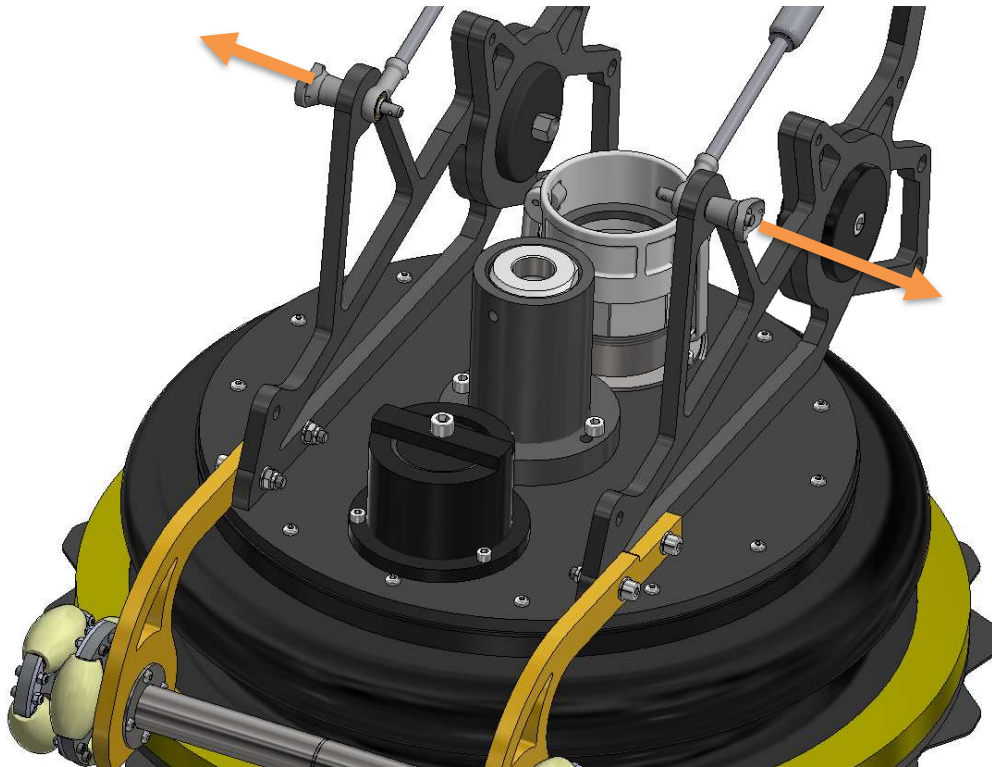

Figure 26 Removing locking pins
2. Detach the gas springs from the blast can by removing the locking pins as shown in figure 26